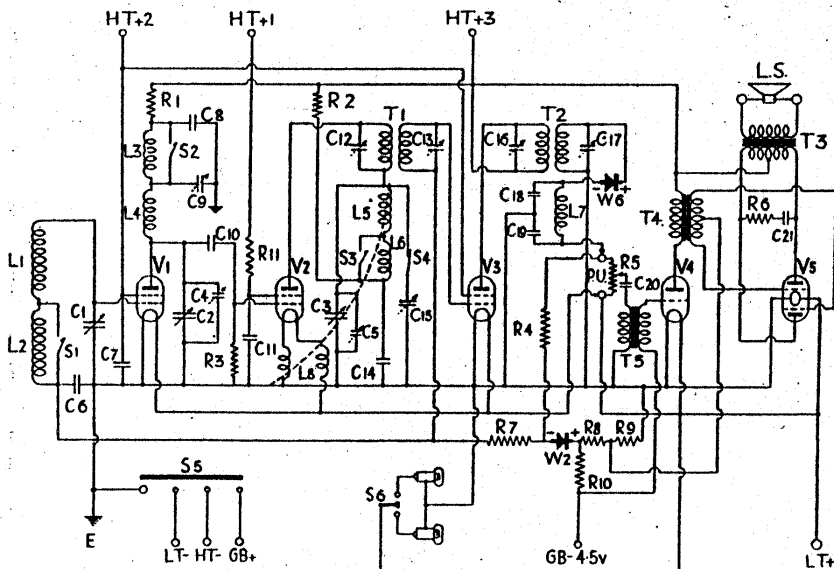
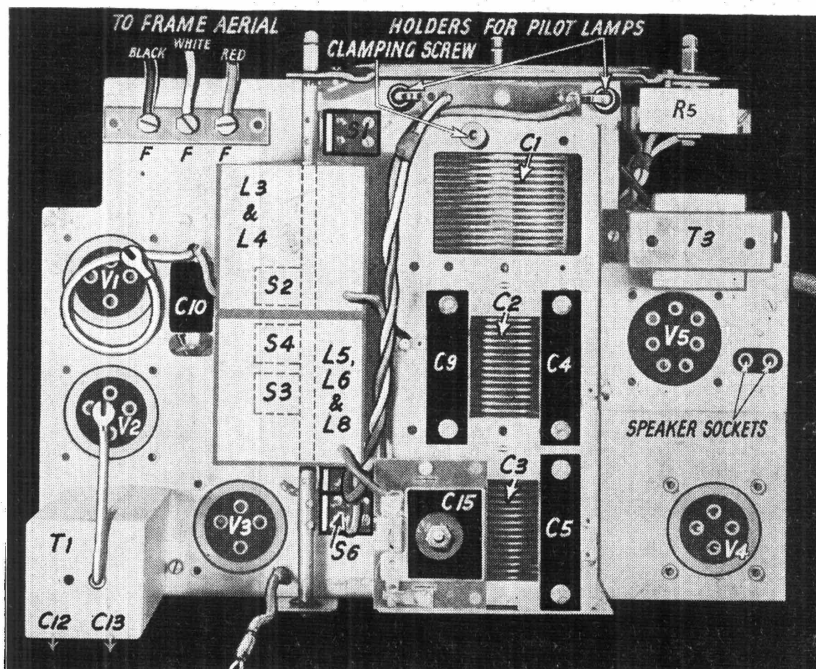

Fig. 1. The circuit of the Pye P/B.
Fig. 2. Plan view of upper surface of chassis.
**Removing Chassis.**—Disconnect and remove all batteries. Remove control knobs. There are no grub screws, and a direct pull is all that is required. If difficulty is experienced, loop pieces of string behind the knobs, and pull. To replace, see that V-shaped spring is in correct position in the knob, the latter being refitted with spring on the D section opposite the flat on the spindle. Remove valve screen (loosen 2 holding screws). Disconnect 3 frame aerial leads (loosen 3 screws F, F, F, Fig. 2). Unscrew battery switch from side of cabinet, and pull battery lead through hole in battery platform. Withdraw loud-speaker leads from sockets on chassis. Remove 4 slotted screws from base of cabinet. Withdraw chassis.
**Removing frame aerial.**—Remove four wood screws holding it to front of cabinet. Withdraw carefully. When re-connecting to chassis, see that coloured leads go to correct terminals (Fig. 2.)
If tests on the set show wide discrepancies from values in valve table, check up valves first, and then all the components in each anode, screen or grid circuit. These are easily traced out from the circuit diagram (Fig. 1), identified in the chassis sketches (Figs. 2 and 3), and evaluated in the component tables.
Resistance  $R_{11}$  (Figs. 1, 3) has now been fitted in series with H.T.+1 lead (65,000  $\Omega$ ) to allow a better adjustment of voltage and to remove instability. Early receivers may not have  $R_{11}$ , which can be added if desired.